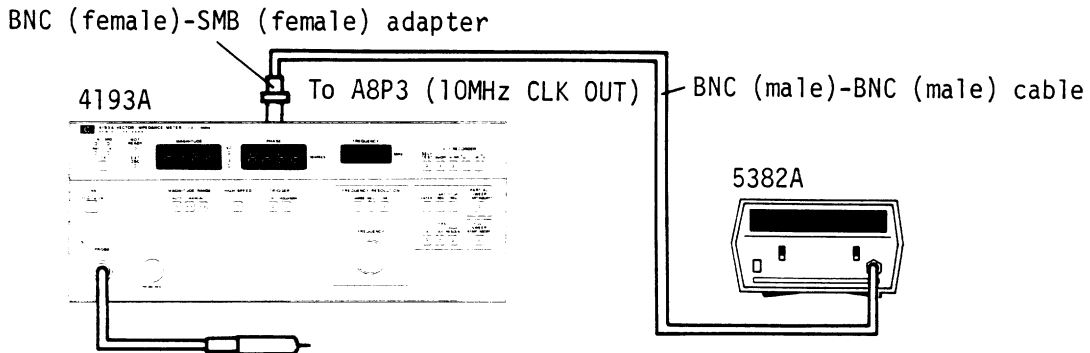

Figure 5-1. 100MHz Reference Frequency Adjustment Setup.
2. Connect the INPUT terminal of the 5382A to A8P3 (10MHz CLK OUT) as shown in Figure 5-1.